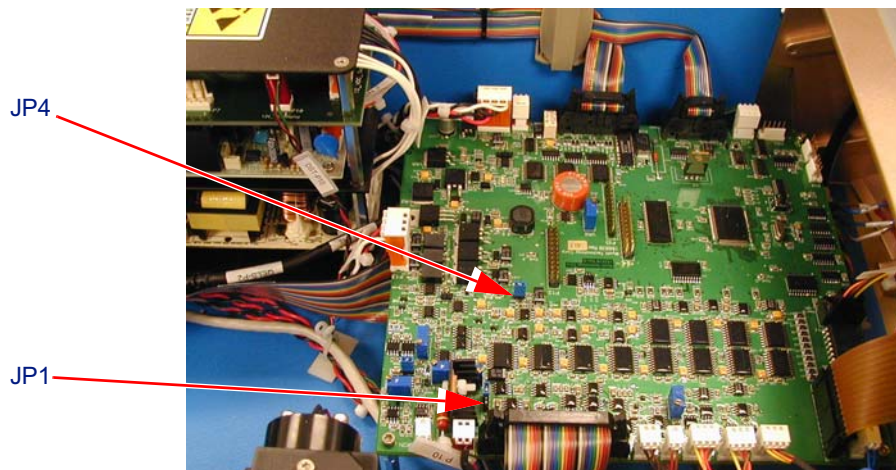

Figure 4-7: miniDAWN TREOS component board
5. Move the jumper on JP1 to pins 1 and 2. See Figure 4-7.